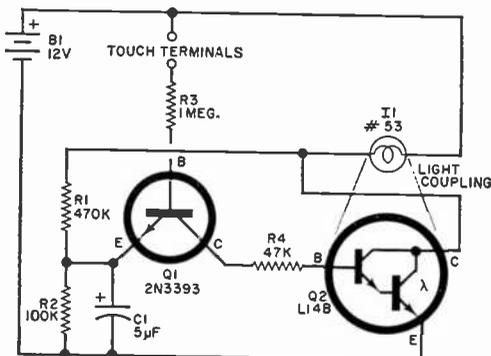

Fig. 3. Touch control circuit uses photo-Darlington transistor, which, once triggered, is held on by *II*.
**Manufacturer's Circuit.** The versatile "touch control" circuit shown in Fig. 3 may be used in a variety of applications, depending on the needs, interests, and imagination of the user. Typically, it might be employed for special display or stage effects, in magic tricks, in emergency lighting, or as part of a safety alarm or signal system. It is one of a number of related circuits described in "Small Scale Integration in Low
Referring to Fig. 3, we find that the design features an *npn* photo-Darlington device (*Q2*) controlled by a conventional *npn* bipolar transistor, *Q1*. Resistors *R1* and *R2* form a voltage divider which establishes a net positive charge across *C1* when the circuit is in its off (nonconducting) state. Both *R3* and *R4* serve as base current-limiting resistors. The load is a conventional incandescent lamp while a 12-volt d.c. source furnishes circuit power.